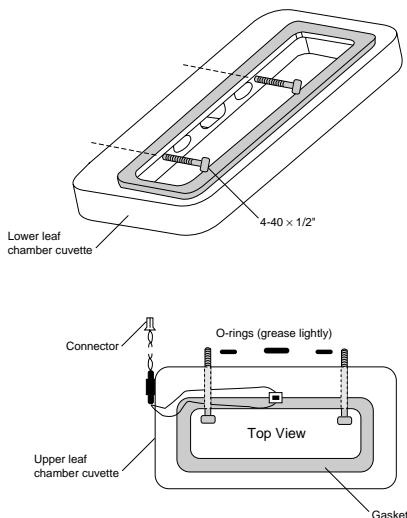
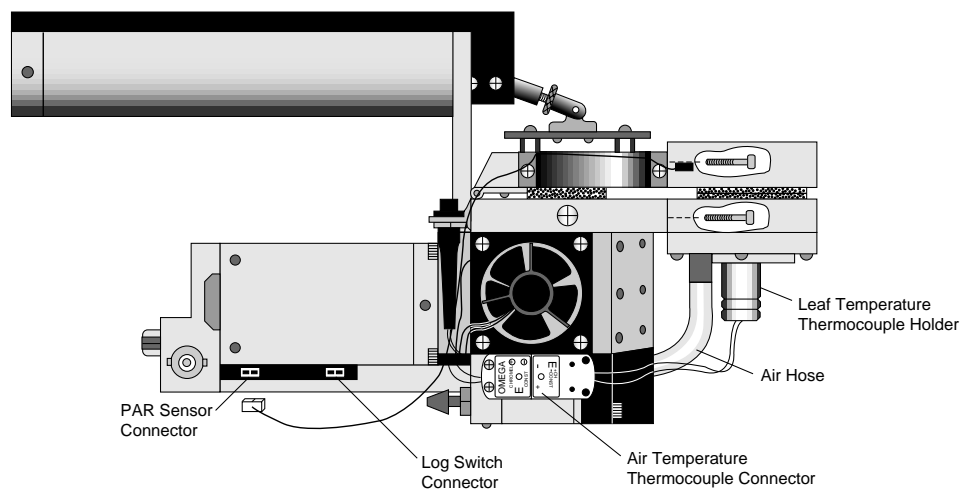

Figure 2. Thread the screws from the inside of the upper and lower chamber cuvettes.
Figure 3. Attach the PAR sensor connector and air temperature thermocouple connector.
1. Install the 6400-11 upper cuvette with two 4-40 x 1/2" screws included. Note that the screws are inserted from within the chamber cuvettes (Figure 2). Attach the PAR sensor connector as shown in Figure 3. Make sure the PAR sensor is attached to the connector near the rear of the analyzer housing, *not* to the log switch connector.
2. Install the 6400-11 lower cuvette with the two 4-40 x 1/2" screws included. Make sure that the air passage O-rings are lightly greased and in place. Insert the leaf temperature thermocouple holder as shown in Figure 3.